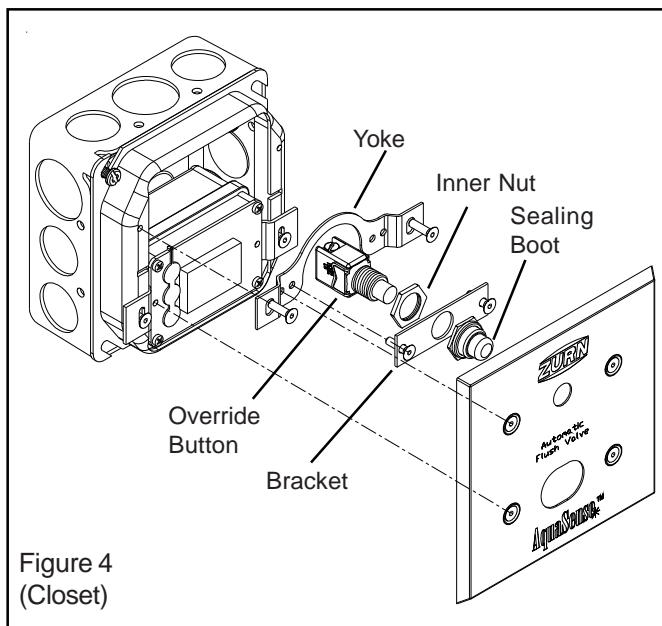

Figure 4
Install the Zurn Automatic Sensor into the 2-gang electrical box using two (2) long screws provided. Ensure that wires from sensor case point up for closet installs and point to the right for urinal installs. The rubber push caps will be on the left side of the sensor for closet and at the top for urinal (See Figures 4 and 4A). The sensor lens faces outward from the finished wall.
STEP 3 – Mount Yoke and Override Button (Figure 4)